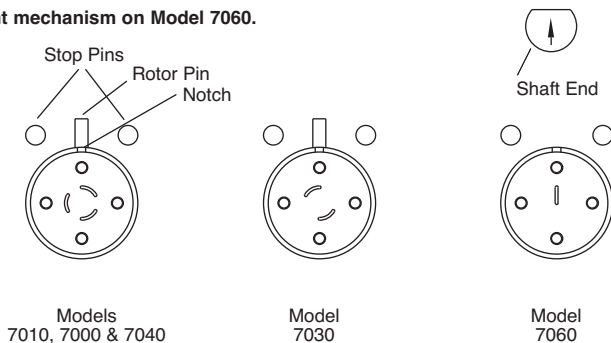

Fig. 6. Correct rotor seal orientation (viewed from stator).
- Be sure that the rotor seal is correctly oriented as shown in Figure 6 with rotor seal grooves facing the stator and with the notch in the metal rim of the rotor seal in line as shown (the notch also faces the stator).
An arrow has been engraved on the knob end of the shaft. Orient the rotor seal on the rotor as shown in Figure 6 relative to this arrow (with the grooves in the rotor seal facing the stator).